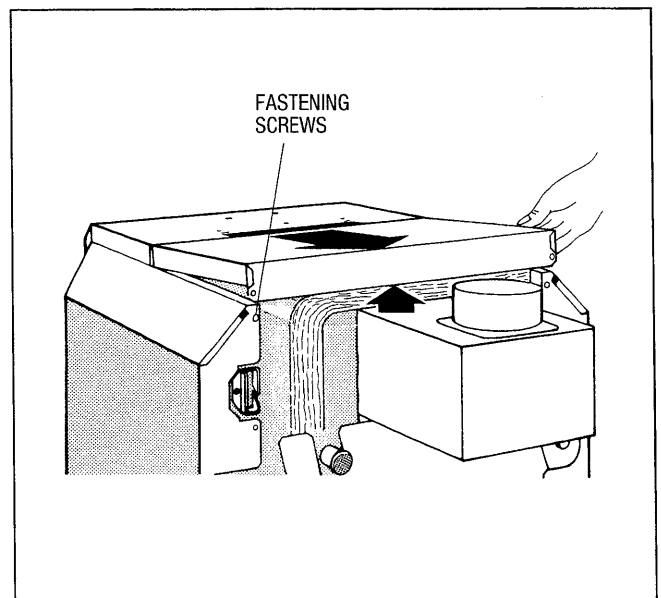

Fig. 20
10. Remove the top rear jacket panel. Inspect for damage, fig. 20.